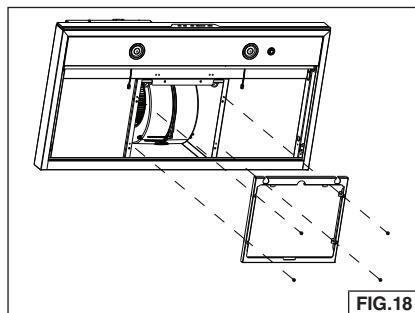

FIG.18
5. Attach non-duct filter frame using (4) 3.9 x 6 mm screws. Fig. 18.